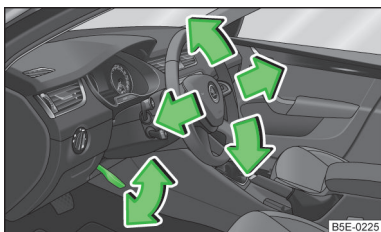

Fig. 116
- Pull the lever below the steering wheel down » Fig. 116.